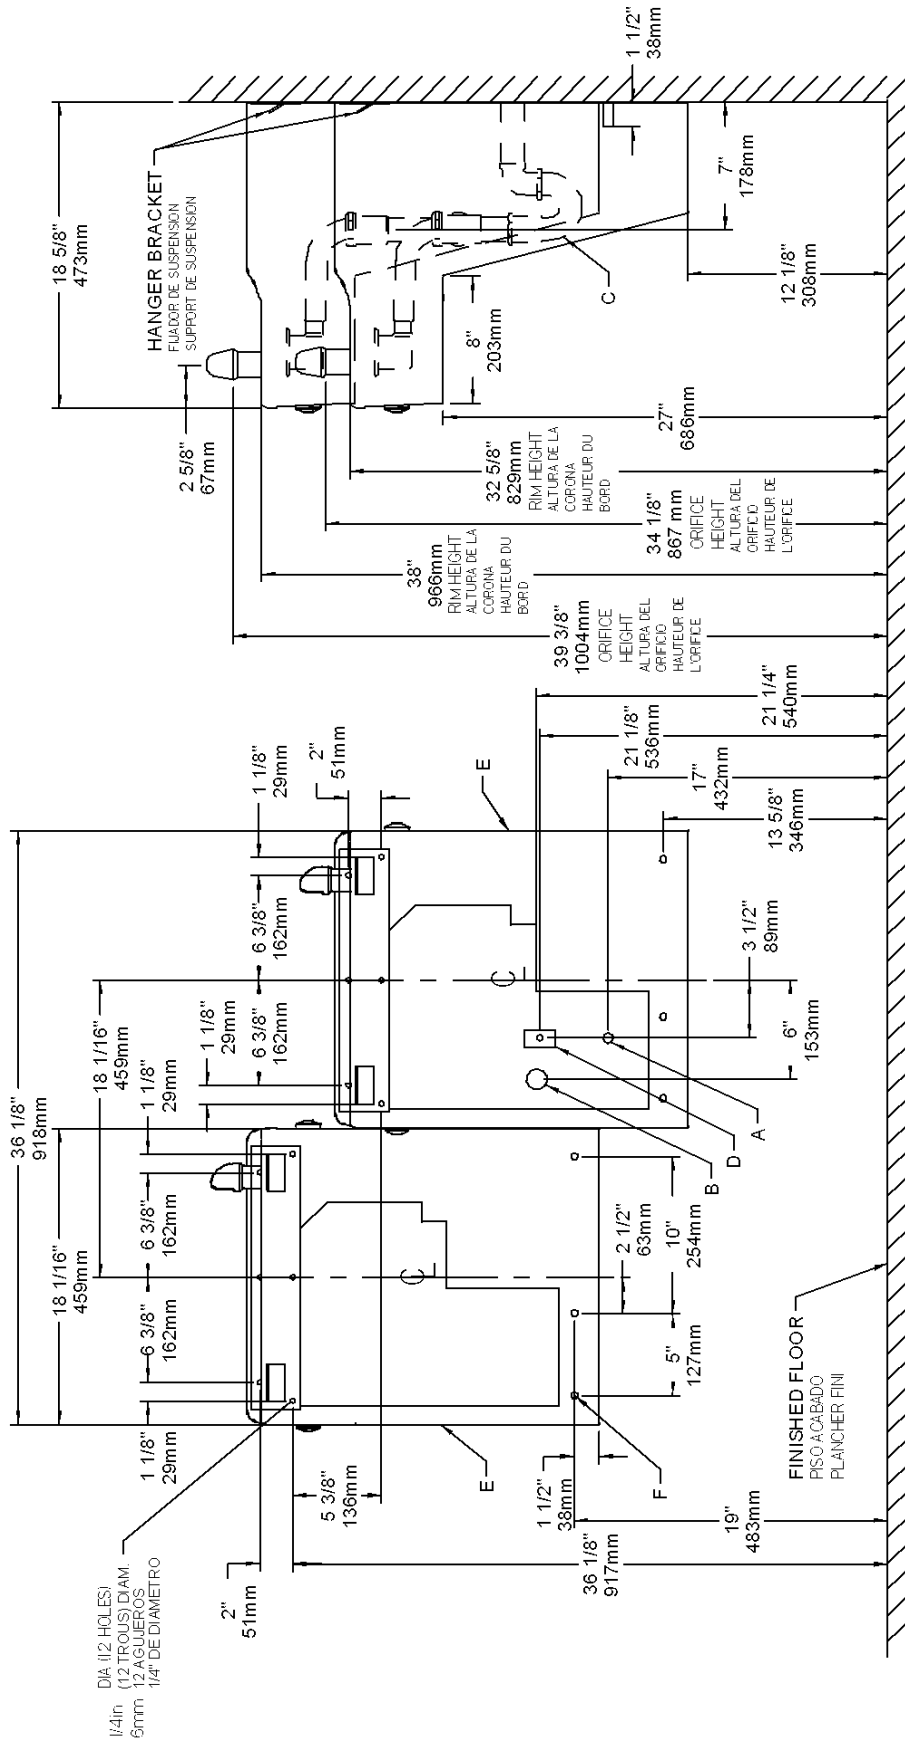
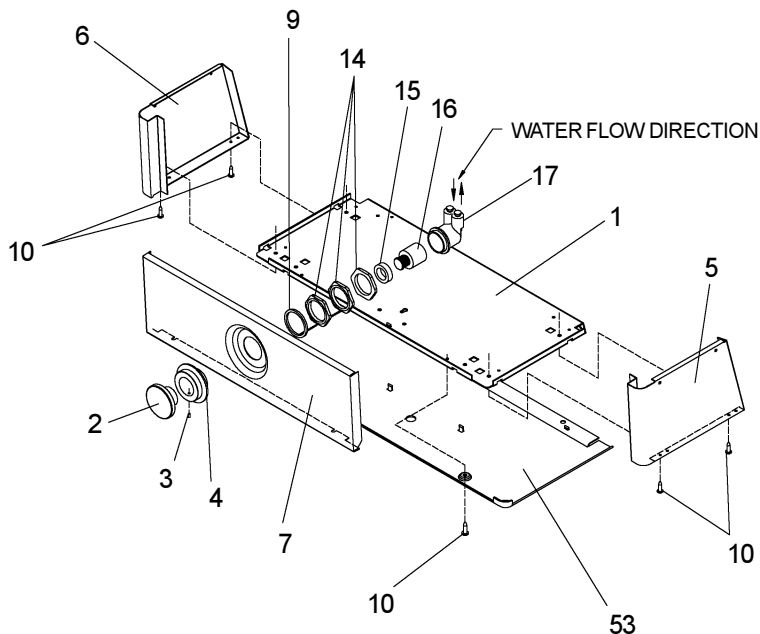
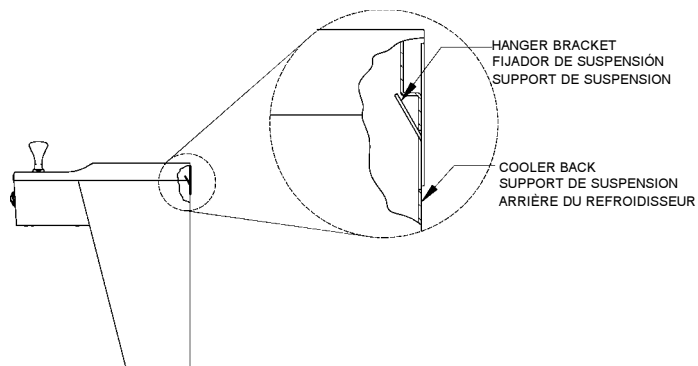

FIG. 2
FIG. 3
FIG. 4
See Fig. 3 (Page 3) For
- 1) Remove hanger bracket fastened to back of cooler by removing one (1) screw.
- 2) Mount the hanger bracket and trap as shown in Figure 2.
- Anchor hanger securely to wall using all six (6) 1/4 in. dia. mounting holes.
- 4) Hang the cooler on the hanger bracket. Be certain the hanger bracket is engaged properly in the slots on the cooler back as shown in Fig. 4.
- 5) Loosen the two (2) screws holding the lower front panel at the bottom of cooler base and two (2) screws at the top. Remove the front panel and set aside.
- 8) Stream height is factory set at 45-50 PSI. If supply pressure varies greatly from this, adjust screw, accessible by removing Item 2, Fig. 3. CW adjustment will raise stream and CCW adjustment will lower stream. For best adjustment, stream should hit basin approximately 6-1/2" (165mm) from bubbler.